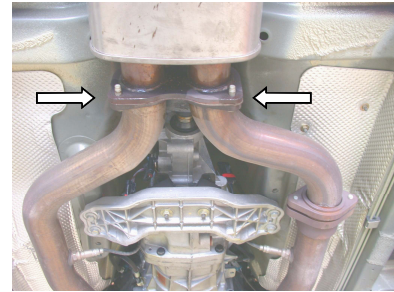

Figure 1
1. Unbolt the flange shown in figure 1 located behind the catalytic converter.